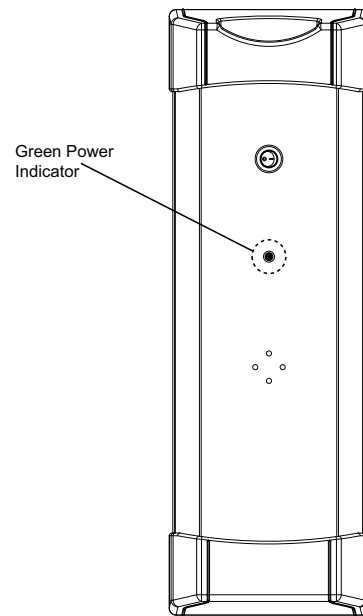

Fig. 18 – Power Indicator (Green LED)
4. The green indicator light above the air purifier power switch should illuminate (Fig. 18).
The air purifier is equipped with a power indicator light located on the door (Fig. 18). This power indicator light will illuminate when the air purifier door is installed, the power switch is in the on position, AND the furnace blower is running. If a Flow Sensor Kit (model KIT160000) is installed in the air purifier and there is no airflow, the power indicator light will blink slowly (once every 3 seconds) indicating that the purifier is in "STANDBY" mode.
The green indicator light on door cover shown in Fig. 18, Power Indication (Green LED).